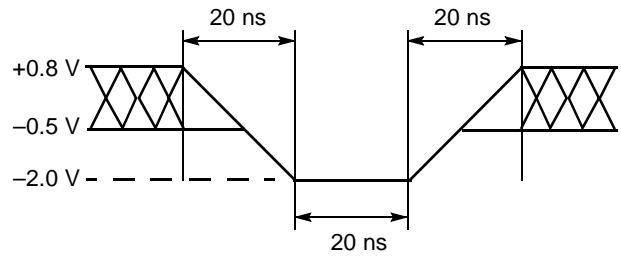
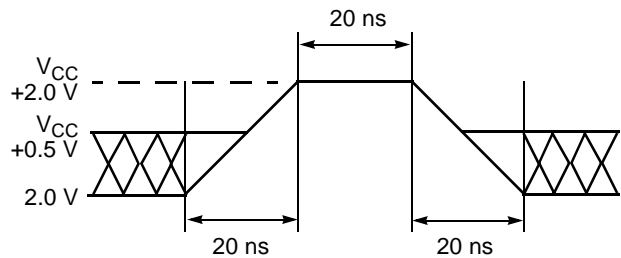

Figure 9. Maximum Negative Overshoot Waveform
Figure 10. Maximum Positive Overshoot Waveform
1. Minimum DC voltage on input or I/O pins is -0.5 V. During voltage transitions, input at I/O pins may overshoot V_{SS} to -2.0 V for periods of up to 20 ns. See Figure 9. Maximum DC voltage on output and I/O pins is $V_{CC} + 0.5$ V. During voltage transitions output pins may overshoot to $V_{CC} + 2.0$ V for periods up to 20 ns. See Figure 10.
2. Minimum DC input voltage on pins A9, OE#, and RESET# is -0.5 V. During voltage transitions, A9, OE#, and RESET# may overshoot V_{SS} to -2.0 V for periods of up to 20 ns. See Figure 9. Maximum DC input voltage on pin A9 and OE# is +13.0 V which may overshoot to 14.0 V for periods up to 20 ns.